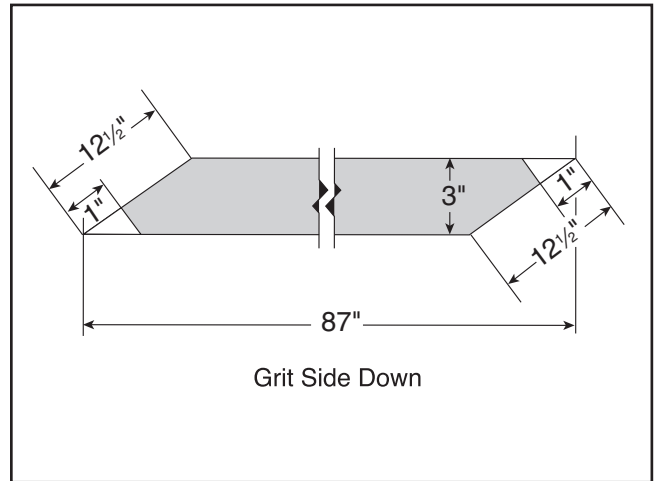

Figure 19. Sandpaper pattern.
7. Use the old sandpaper as a pattern, or use the pattern in **Figure 19**, to cut a new piece of sandpaper to the necessary shape. After cutting the 12½" angled sides, measure 1" along the same sides and cut off the ends with a knife.
14. If the sandpaper does not fit into the right clamp, you may have inserted the sandpaper too deeply into the left clamp. Also, check to make sure the length, width, and angled cuts match the pattern in **Figure 19**. Make adjustments to the sandpaper if necessary.